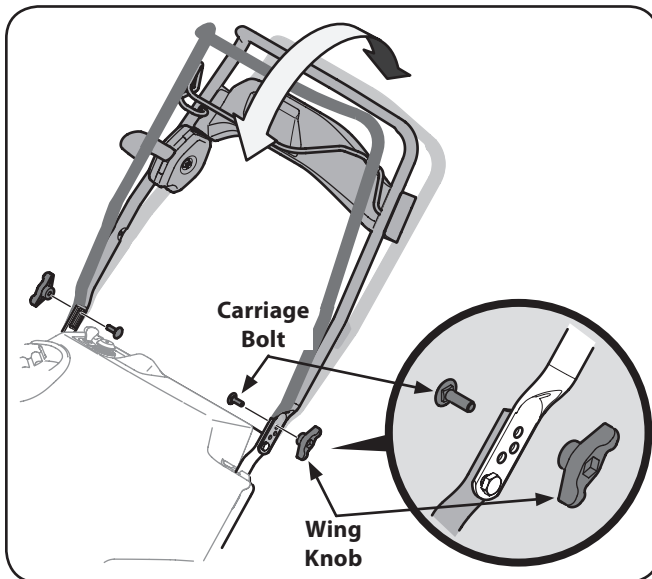

Figure 3-3
4. The handle on model 221 LHP can be set in three different position. Place the handle in the desired position and then install wing knobs and carriage bolts in the appropriate hole and secure the handle. See Figure 3-3.